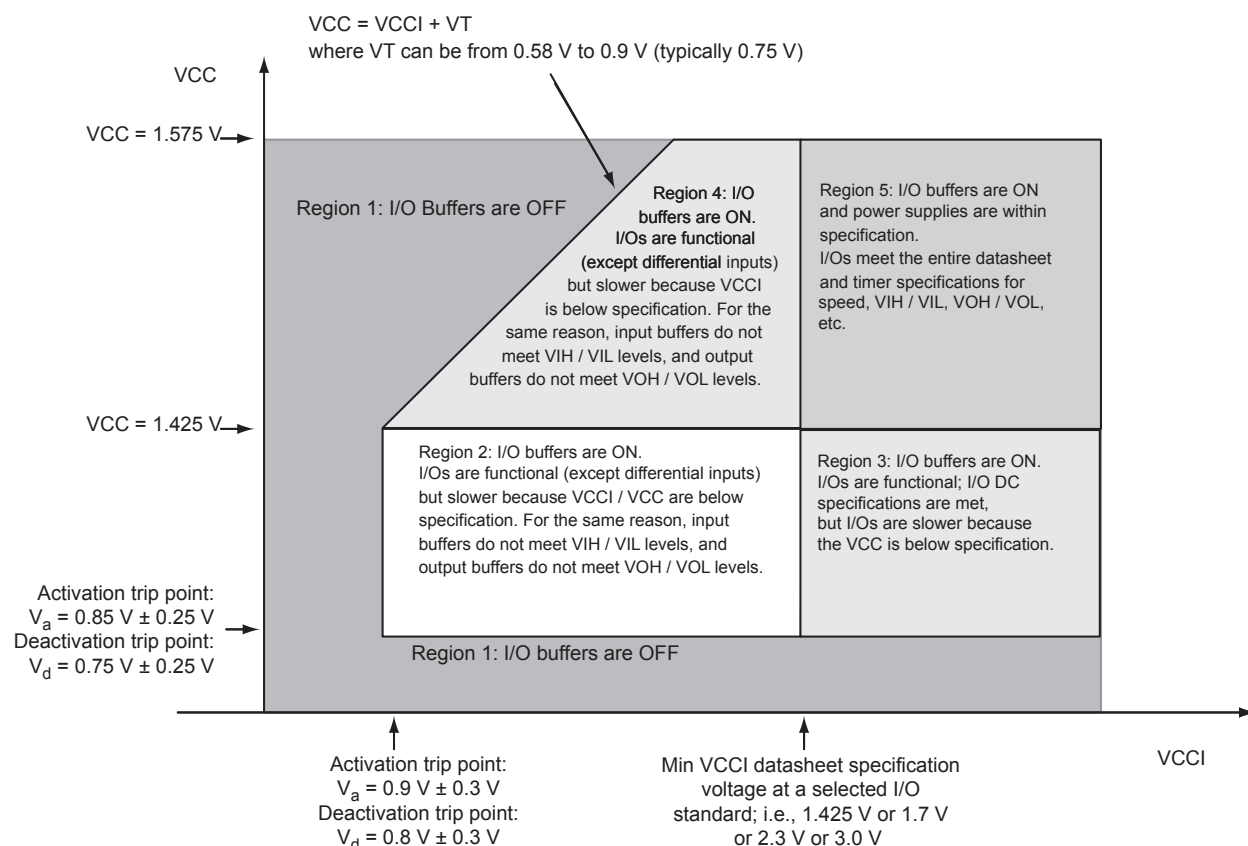
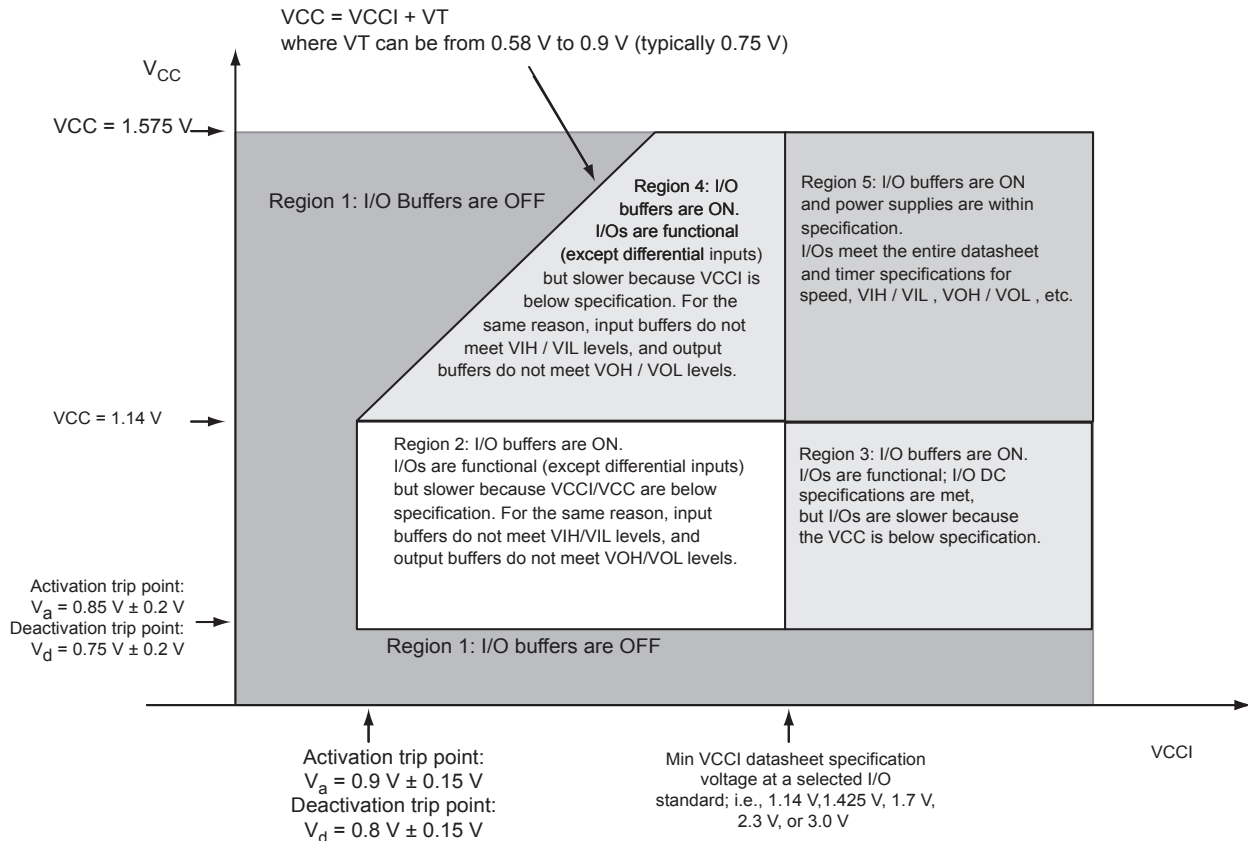

Figure 2-1 • V5 Devices – I/O State as a Function of VCCI and VCC Voltage Levels
Figure 2-2 • V2 Devices – I/O State as a Function of VCCI and VCC Voltage Levels
Sophisticated power-up management circuitry is designed into every IGLOO PLUS device. These circuits ensure easy transition from the powered-off state to the powered-up state of the device. The many different supplies can power up in any sequence with minimized current spikes or surges. In addition, the I/O will be in a known state through the power-up sequence. The basic principle is shown in Figure 2-1 on page 2-4.
1. VCC and VCCI are above the minimum specified trip points (Figure 2-1 and Figure 2-2 on page 2-5).
Microsemi recommends using monotonic power supplies or voltage regulators to ensure proper power-up behavior. Power ramp-up should be monotonic at least until VCC and VCCPLX exceed brownout activation levels (see Figure 2-1 and Figure 2-2 on page 2-5 for more details).